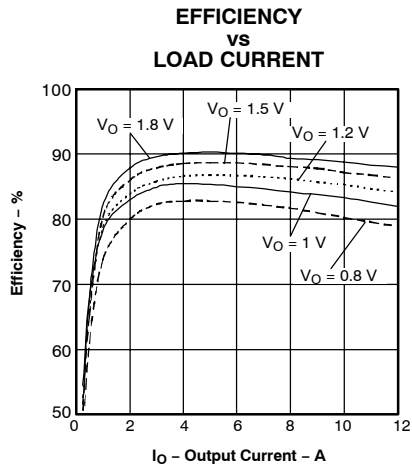
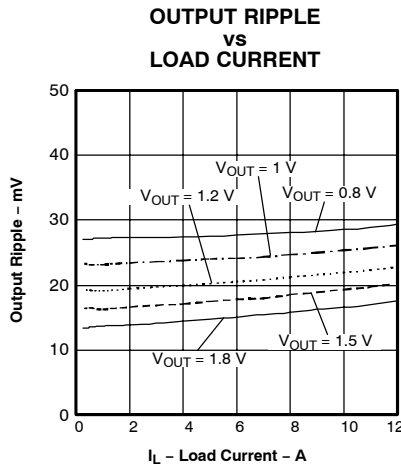
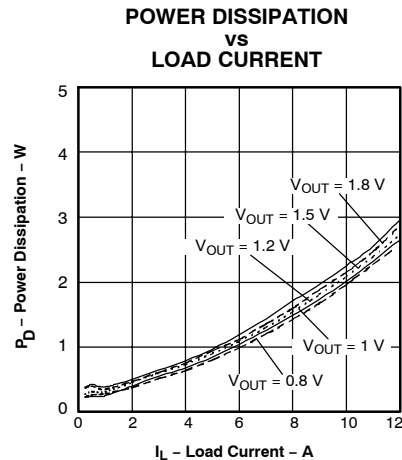

Figure 7.
Figure 8.
Figure 9.
- (25) The electrical characteristic data has been developed from actual products tested at 25°C. This data is considered typical for the converter. Applies to Figure 7, Figure 8, and Figure 9.